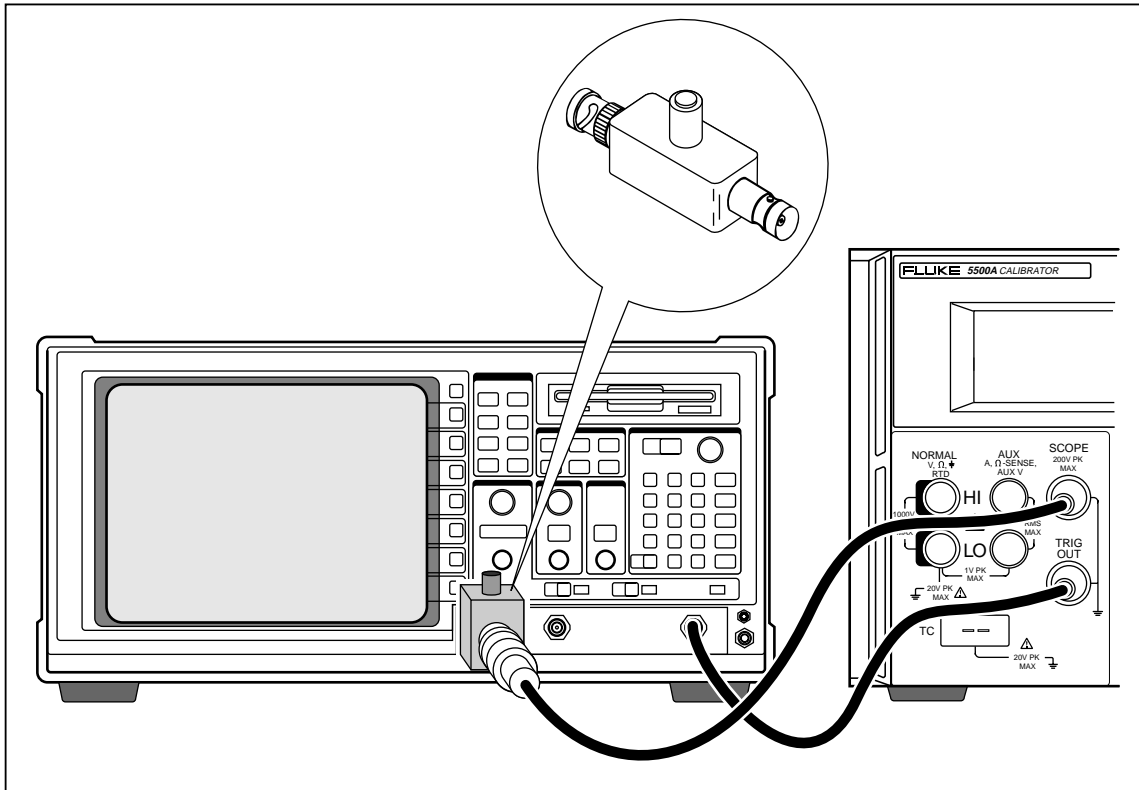

Figure 8-2. Tunnel Diode Pulser Connections
1. Connect the calibrator, tunnel diode pulser, and oscilloscope as shown in Figure 8-2.